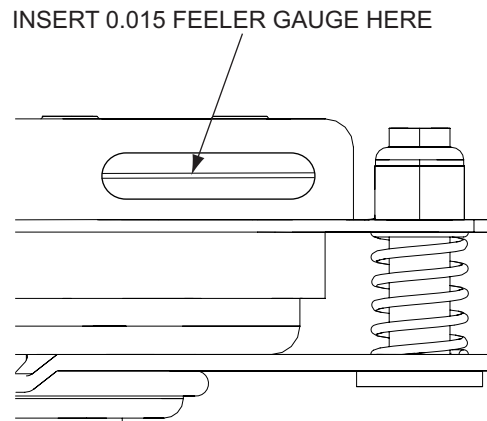

Figure 6-10. Clutch Air Gap Adjustment
2. Place a 0.015 feeler gauge in the slot between the rotor and the armature. See Figure 6-10.